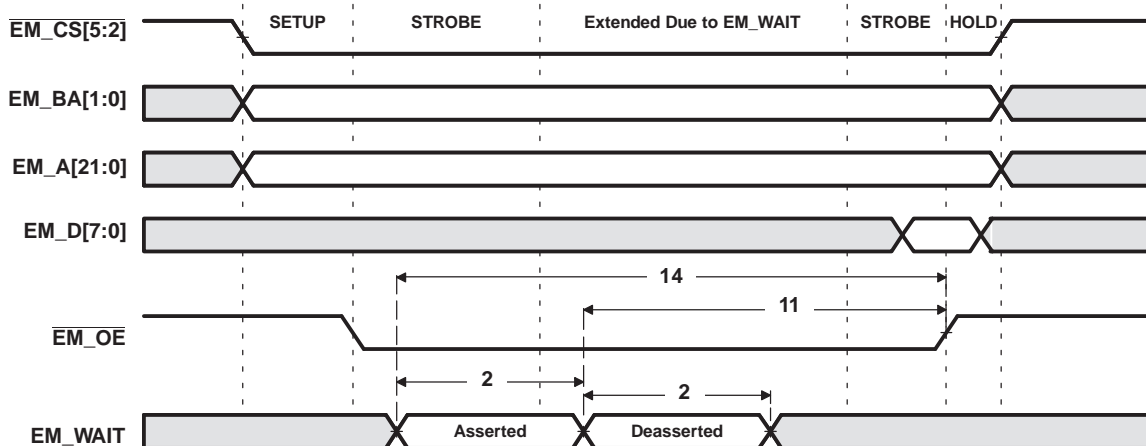
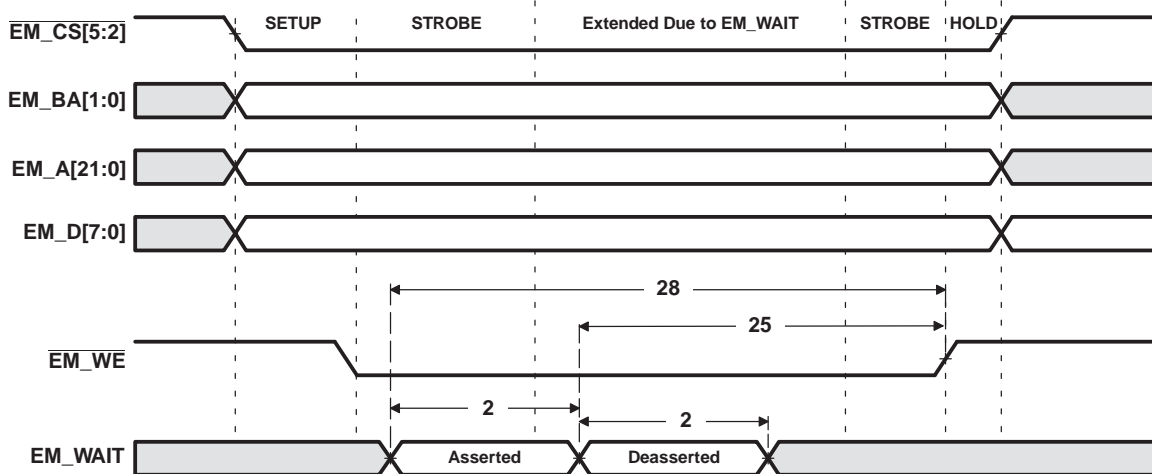

Figure 6-16. EM_WAIT Read Timing Requirements
Figure 6-17. EM_WAIT Write Timing Requirements
(1) E = SYSCLK3 period in ns for EMIFA. For example, when running the DSP CPU at 600 MHz, use E = 10 ns.
(2) Setup before end of STROBE phase (if no extended wait states are inserted) by which EM_WAIT must be asserted to add extended wait states. Figure 6-16 and Figure 6-17 describe EMIF transactions that include extended wait states inserted during the STROBE phase. However, cycles inserted as part of this extended wait period should not be counted; the 4E requirement is to the start of where the HOLD phase would begin if there were no extended wait cycles.